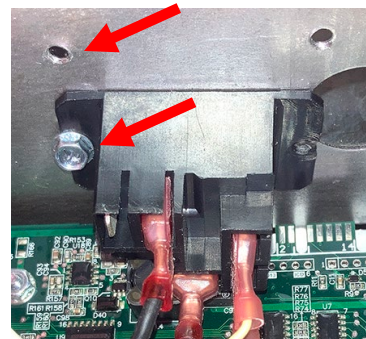

Figure 20
19. Using supplied drill point screws to relocate the relay about one (1) inch behind its existing position (holes), toward the rear of the box as shown (see Figure 20).